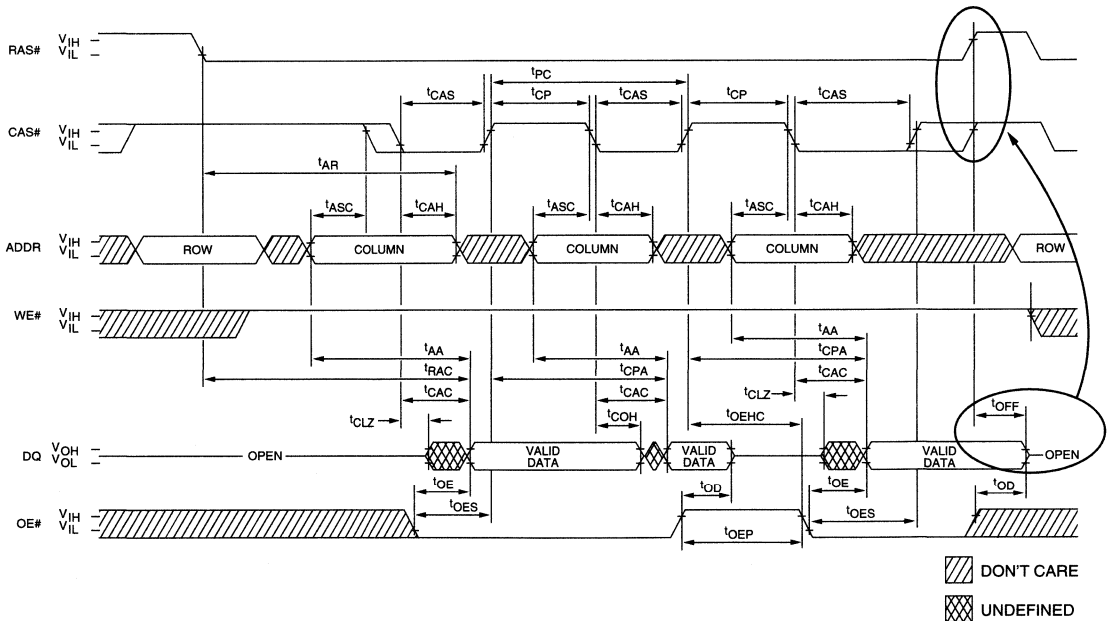

Figure 2
The EDO DRAM rectifies this loss of time. Whenever CAS# transitions HIGH on an EDO DRAM, the DQs are not placed into High-Z but continue to drive data out, as shown in Figure 2. The advantage with the DQs continuing to drive data out after CAS# transitions HIGH is a pseudo pipeline. That is, the CAS# precharge can be initiated while the data is being latched into the next stage, resulting in a faster page cycle. However, one possible disadvantage with this approach is that the DQs will continue to drive data until they are placed into High-Z by a method other than CAS# transitioning HIGH, which has been relied upon by FPM
1. Both RAS# and CAS# transitioning HIGH (see Figure 2).
Data states on the SDA line can change only during SCL LOW (Figure 1). SDA state changes during SCL HIGH are reserved for indicating start and stop conditions (Figure 2). Additional operating and timing information on the EEPROM can be obtained from a 24xxS52 EEPROM data sheet.